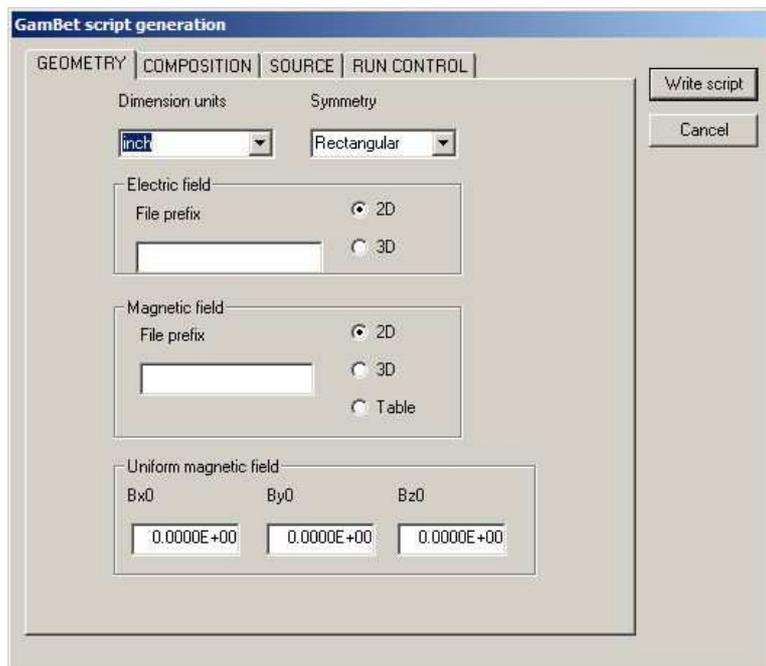

Figure 4: Setup dialog, Geometry tab
**GamBet** calculations require a geometry mesh. A two-dimensional mesh file (`FPREFIX.MOU`) or a three-dimensional file (`FPREFIX.MDF`) must be available to use the setup dialog. In the main menu, click on the **Setup** command or tool. In the file selection dialog, choose the input mesh file. **GamBet** checks the number of regions in the mesh and reads the region names if they are available. If the file is a valid mesh, the dialog of Fig. 4 appears. Note the tabs at the top of window: there is one tab for each of the command groups in the script (Chap. 4).
The *Geometry* tab is active in Figure 4. The following fields apply to all scripts.